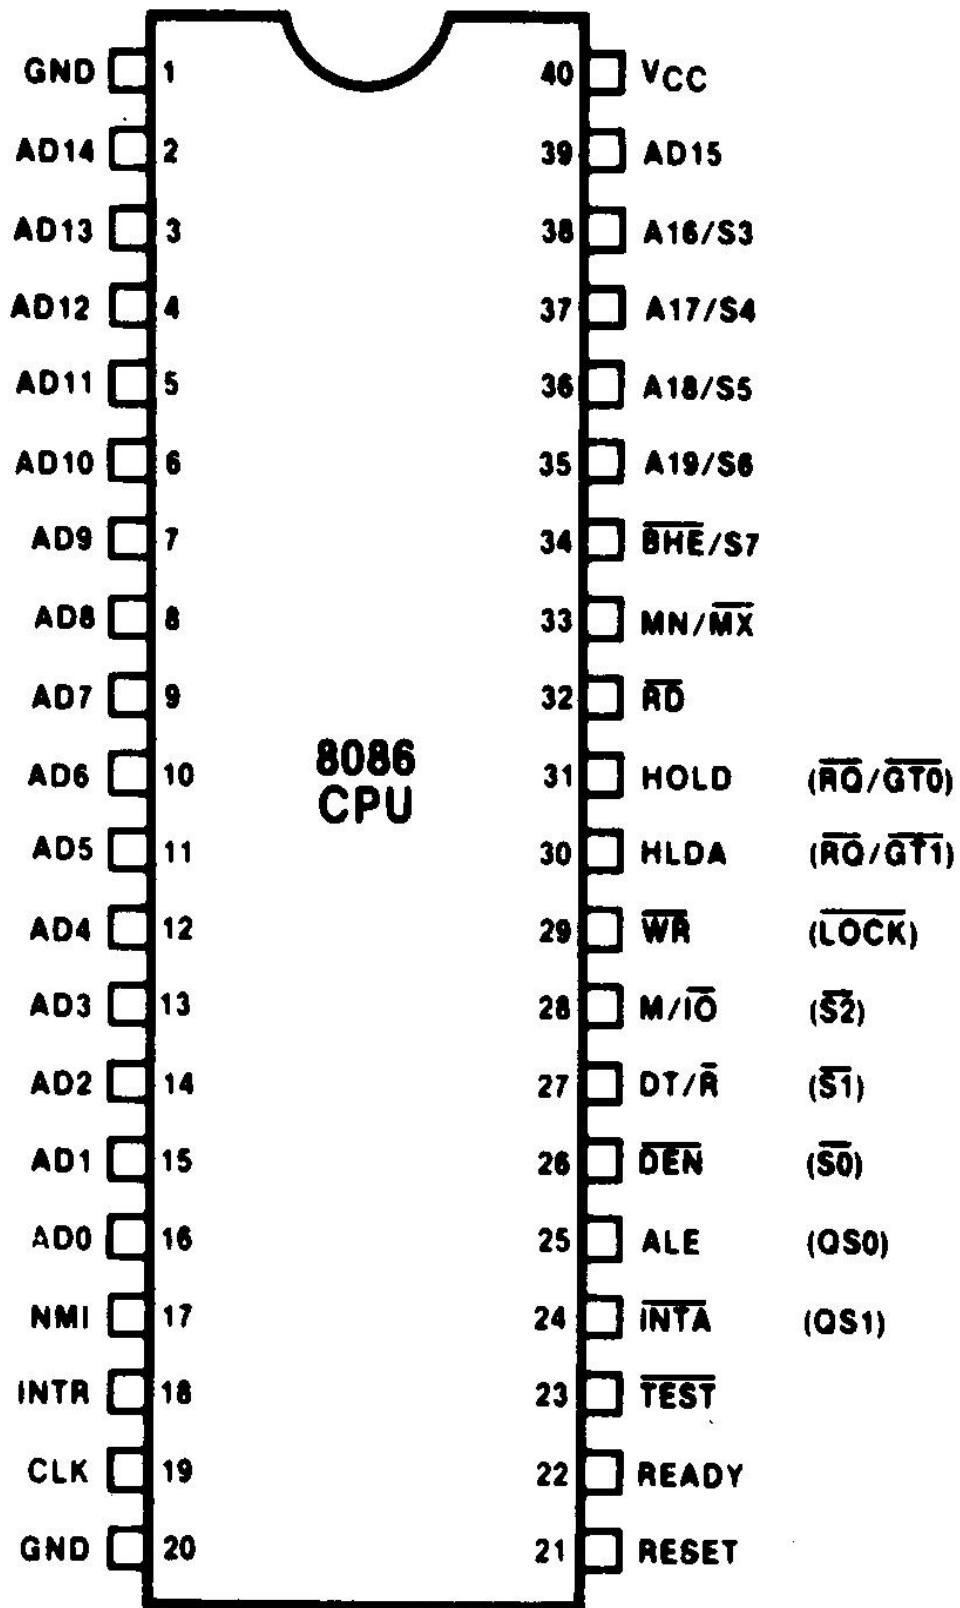

Figure 8-1 Pin layout of the 8086 Microprocessor.
- The 8086 is housed in a **40-pin dual in-line package**. The signals pinned out to each lead are shown in Fig. 8-1.